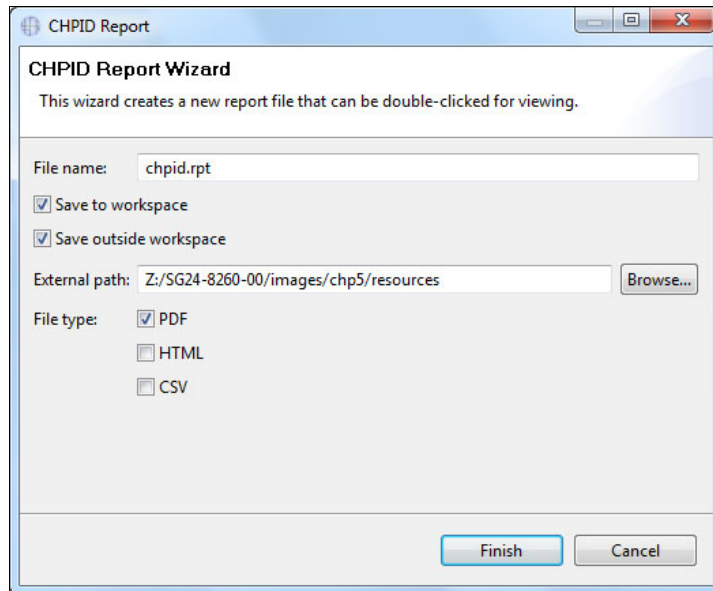

Figure 7-54 CMT - Save CHPID Report
2. Click **Save Report**. In the example, when you click **CHPID Report**, an option window opens (Figure 7-54). Specify a file name and an external path (location) of where to save the file. If you want to save the report in HTML, select **HTML**; the tool selects **PDF** by default. The window is similar for all type of reports. Click **Finish**.